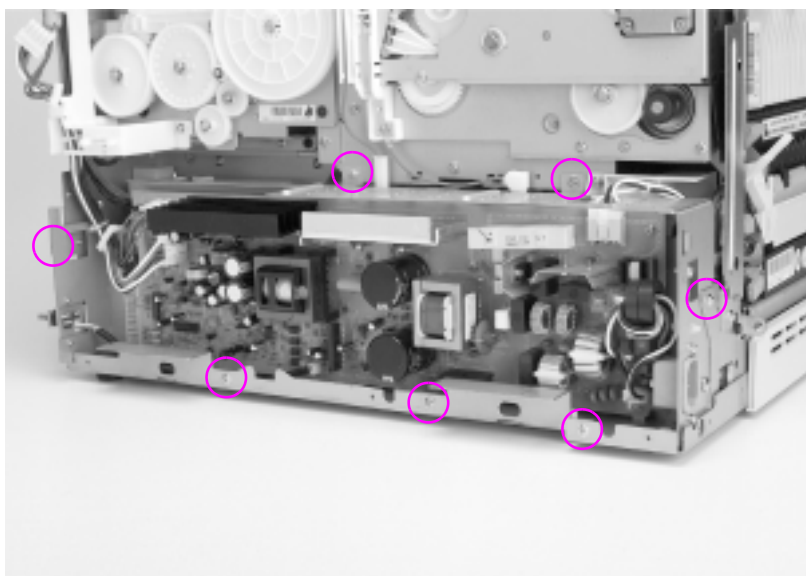

Figure 6-29 Power supply removal and replacement
- 3 Remove the seven screws from the power supply shown in Figure 6-29.